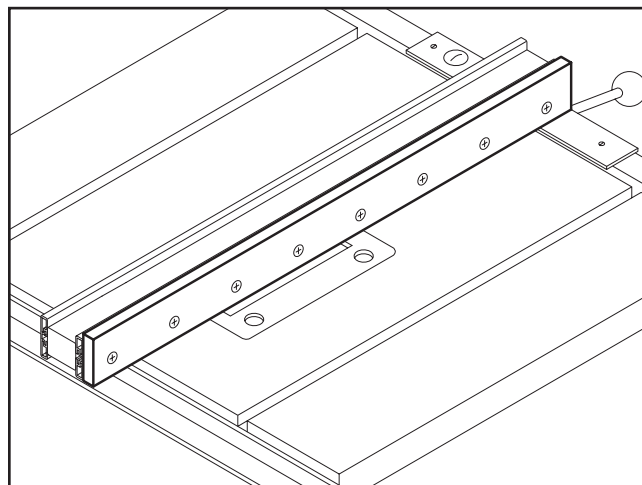

Figure 36. Auxiliary fence.
4. Thread the flat head screws through the auxiliary fence and into the hex nuts in the standard fence, and tighten securely as shown in **Figure 36**.